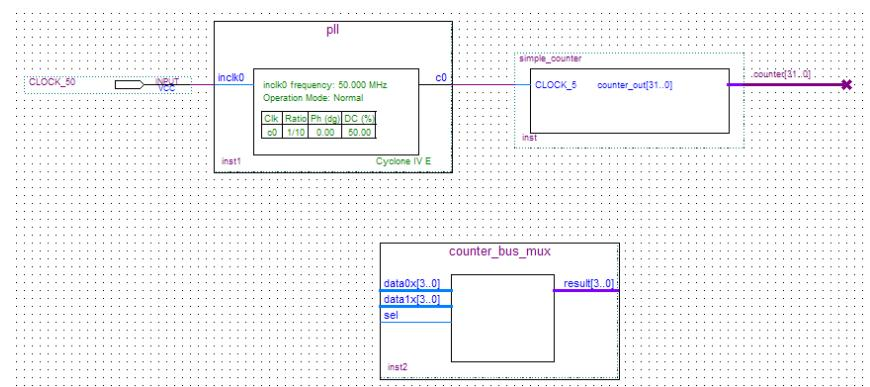

Figure 6-36 Place the lpm_mux symbol
14. Place the **counter_bus_mux** symbol below the existing symbols on the BDF, as shown in Figure 6-36.